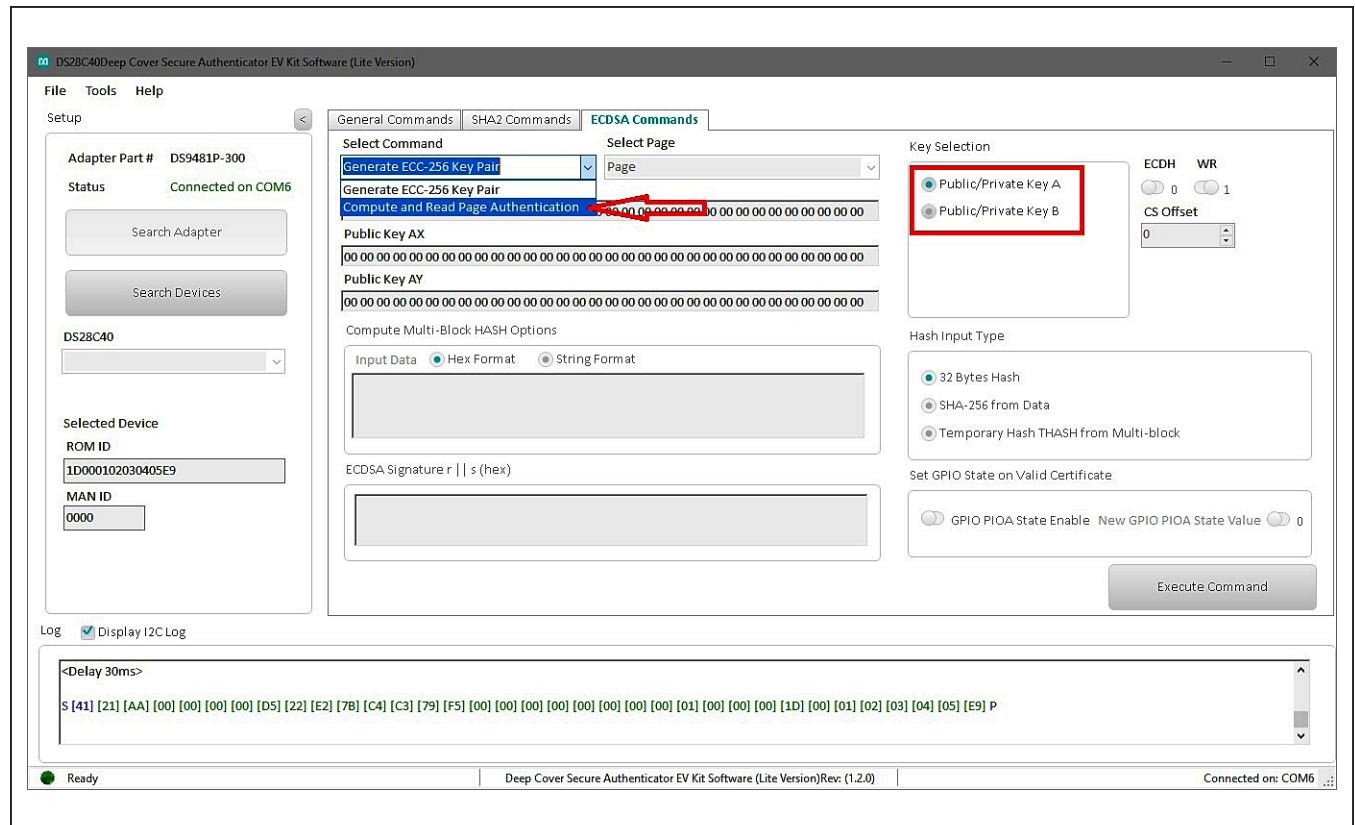

Figure 26. Selecting Command
- 4) In the **Select Command** drop-down menu, select the **Compute and Read Page Authentication** command and the **Public/Private Key** from the **Key Selection** combo box (Figure 26).